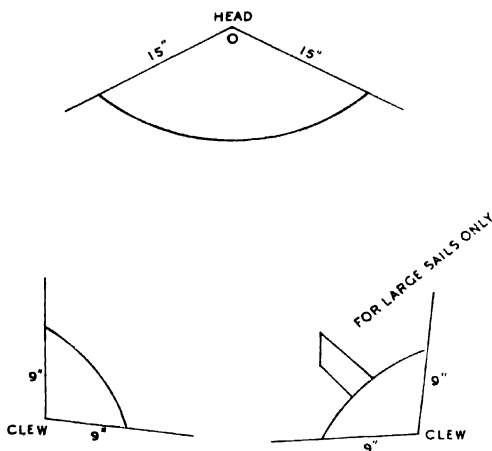

FIG. 29. Patches of the parachute spinnaker. The sizes shown are for an average sail of 250 sq. ft.
*Operation 4* Fitting patches (Fig. 29). These are required at each corner of the sail, and are made as follows: Spread out each corner in turn, and with centre at the intersection of the luff and foot or leech lines, draw an arc (with radius 6 in. for spinnakers up to 100 sq. ft. scaling up in proportion for larger sails), cutting the luff and foot lines. This represents the outer patch. Now reduce the radius by one-third and draw another similar arc to indicate the under patch. Cut out the under patches from the spare cloth, so that they exactly fit the triangle formed by the arc, making sure that the weave of the cloth is the same as that in the sail. Sew these under patches on with a row of stitches  $\frac{1}{4}$  in. from the arc, leaving the other two sides of each patch unsewn.